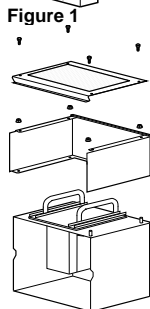
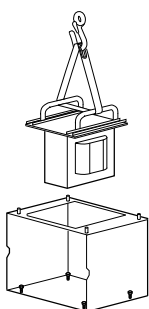

Figure 2
Figure 3
**1** Disassemble the components of the DC choke or transformer(s) (Figure 2) for installation later, and use a hoist to remove the choke or transformer(s) (Figure 3).
**2** Remove the fixing screws (Figure 3) from the choke or transformer support on the pallet.